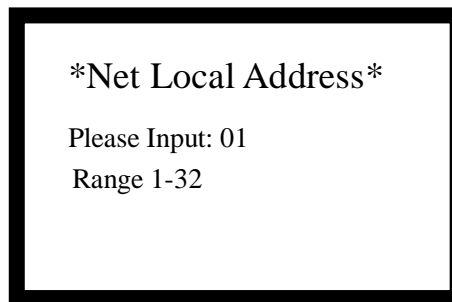

Fig. 6-42
- ✧ You can set the panel’s network address by entering number 1, as shown in Fig. 6-42.